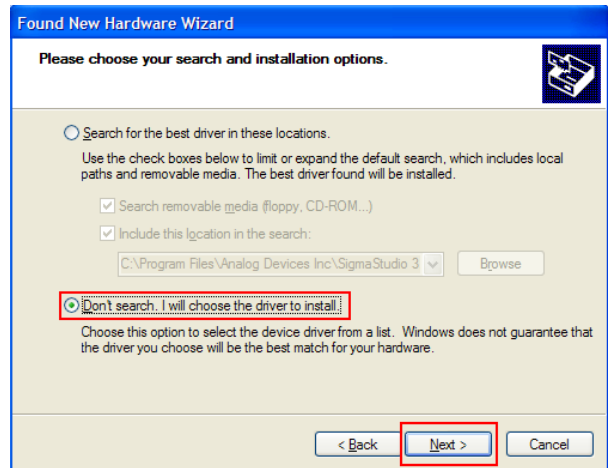

Figure 3. Selection of the Driver to Install
3. Select **Don't search. I will choose the driver to install** and click **Next >** (see Figure 3).